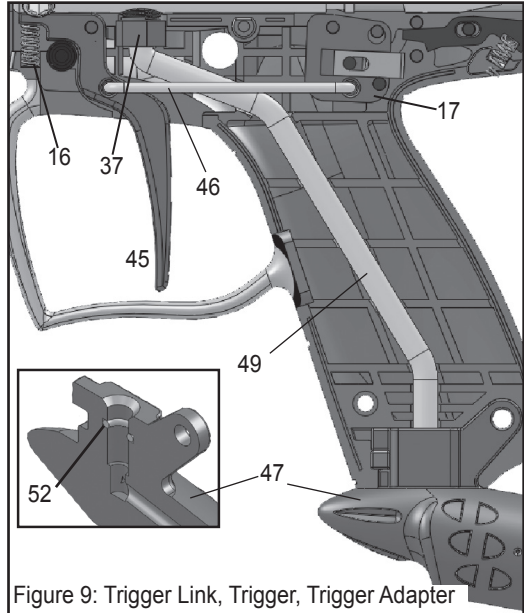

Figure 9: Trigger Link, Trigger, Trigger Adapter
- Remove the **Air Supply Adapter (ASA)** (47) and **Gas Line** (49) as an assembly from the marker. The Gas Line pulls out of the **Gas Line Joint** (37) attached to the Power Tube. Pull the Gas Line from the ASA if necessary. If the **O-ring** (52) inside the ASA needs to be replaced, use a pick to remove the existing one. Be sure to properly seat the new O-ring as shown in the inset graphic in Figure 9. A little marker oil on the O-ring will make reassembly easier.
- Remove the **Sear** (42) by lifting straight up from the right Receiver half. Be sure to maintain control of the **Spring** (44) while removing the Sear.